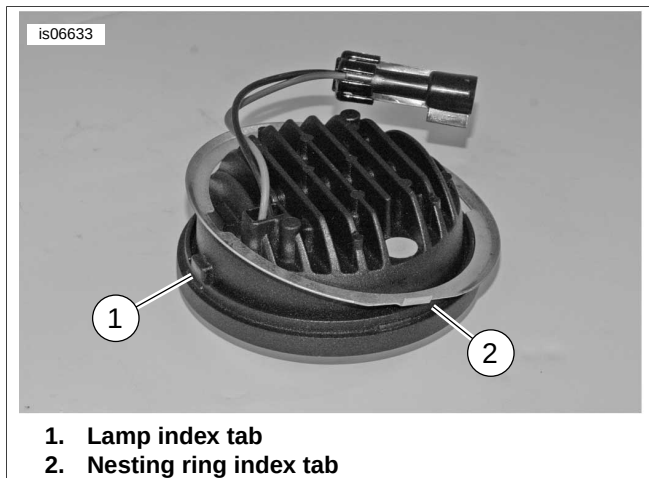
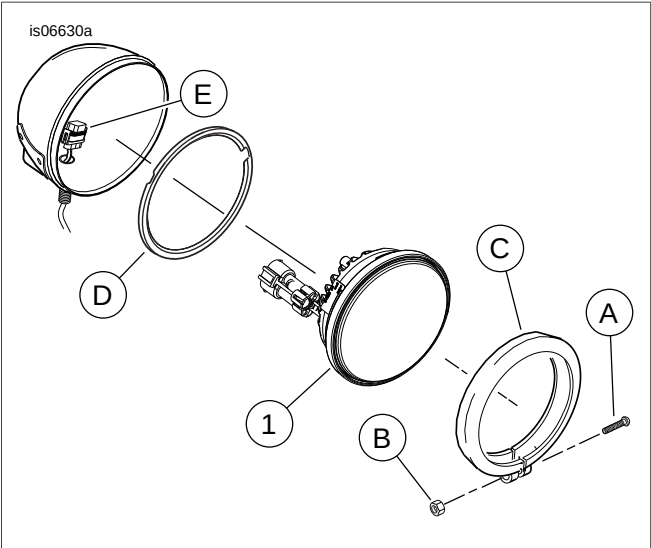

Figure 1. Lamp and Nesting Ring
Figure 4. Service Parts: LED Auxiliary Lamps
See Figure 4 and Table 1.
2. See Figure 4. Remove auxiliary lamp retaining screw (A) and nut (B) from auxiliary lamp retaining ring (C). Remove and retain retaining ring and hardware.
3. Disconnect the wire harness plug from back of auxiliary lamp (1).
4. Remove lamp (1) and nesting ring (D). Discard lamp but retain nesting ring.
5. See Figure 1. Place the nesting ring at back of new lamp with concave side facing away from lamp.